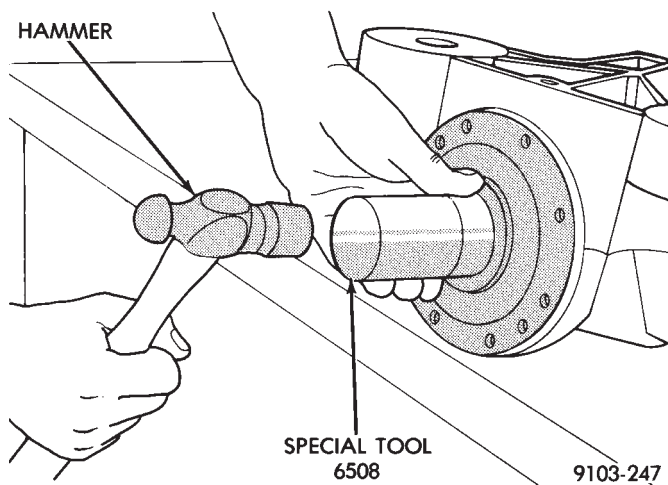

Fig. 13 Overrunning Clutch Seal Installation
- (4) Apply a light coat of oil onto the overrunning clutch seal and install with Seal Installer 6508 . Seal must be installed with the spring side away from the rear carrier case (Fig. 13).
- (5) Clean pinion nut and pinion shaft threads with Mopar® Brake and Parts Cleaner, Loctite Cleaning Primer or equivalent.